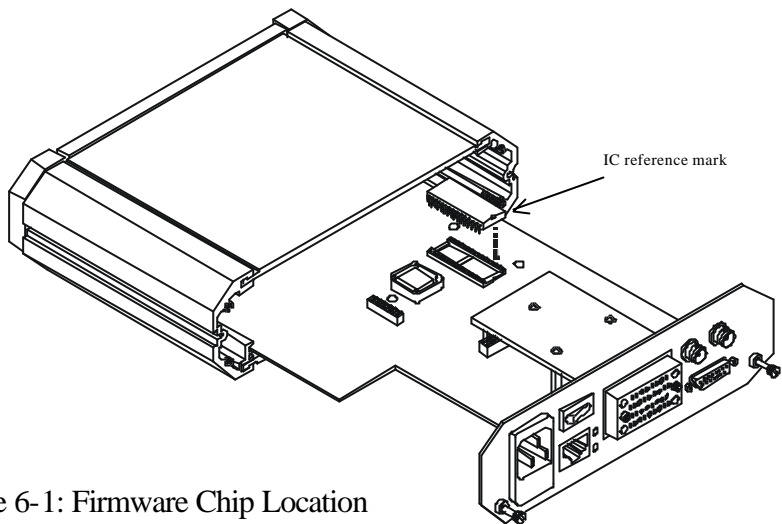

Figure 6-1: Firmware Chip Location
1. Inspect the contents of the SNMP kit. It should contain one(1) SNMP card, three(3) brass standoffs, six(6) 3mm screws, MIB file floppy diskette or CDROM, and possibly a 32pin EEPROM.
2. From the rear of the unit, disconnect all power, data port, and E1 cabling from the unit. Loosen the two captive thumb-screws located on the lower left and right of the unit. Carefully slide the mother PCB out of the case and place on a flat, clean work area. (Refer to Figure 6-1: Firmware Chip Location.)
4. If the firmware needs to be upgraded, perform this step prior to insertion of the SNMP card. Use a flat-blade screwdriver to carefully remove the EEPROM IC from PCB location U4 (refer to Figure 6-1). Ensure that the pins of the new IC are straight, align the pins with the IC socket and carefully seat the new IC. Excessive force should not be required. Inspect all 32 pins to ensure proper seating and that no pins were inadvertently bent during insertion.